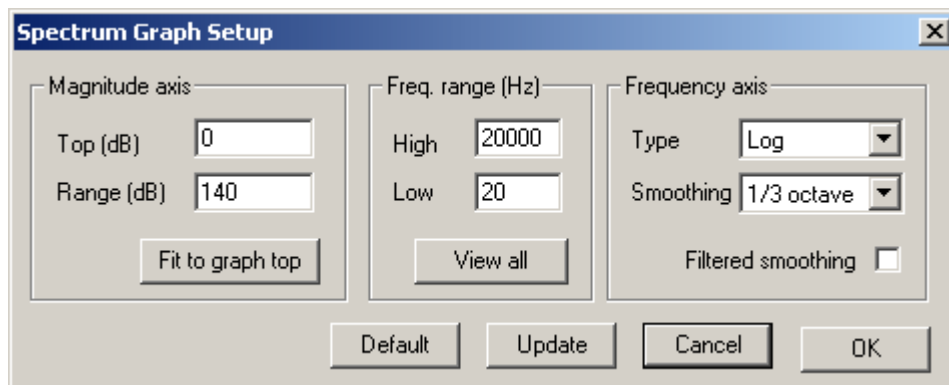

Figure 2.7 Dialog box for spectrum graph setup
The menu command **Setup->Graph Setup** (or *click of right mouse button in the plot area*), opens a dialog box 'Spectrum Graph Setup' (Fig. 2.7). Use this dialog box to adjust (1) the dynamic range shown, (2) the frequency range shown and (3) the frequency axis resolution.